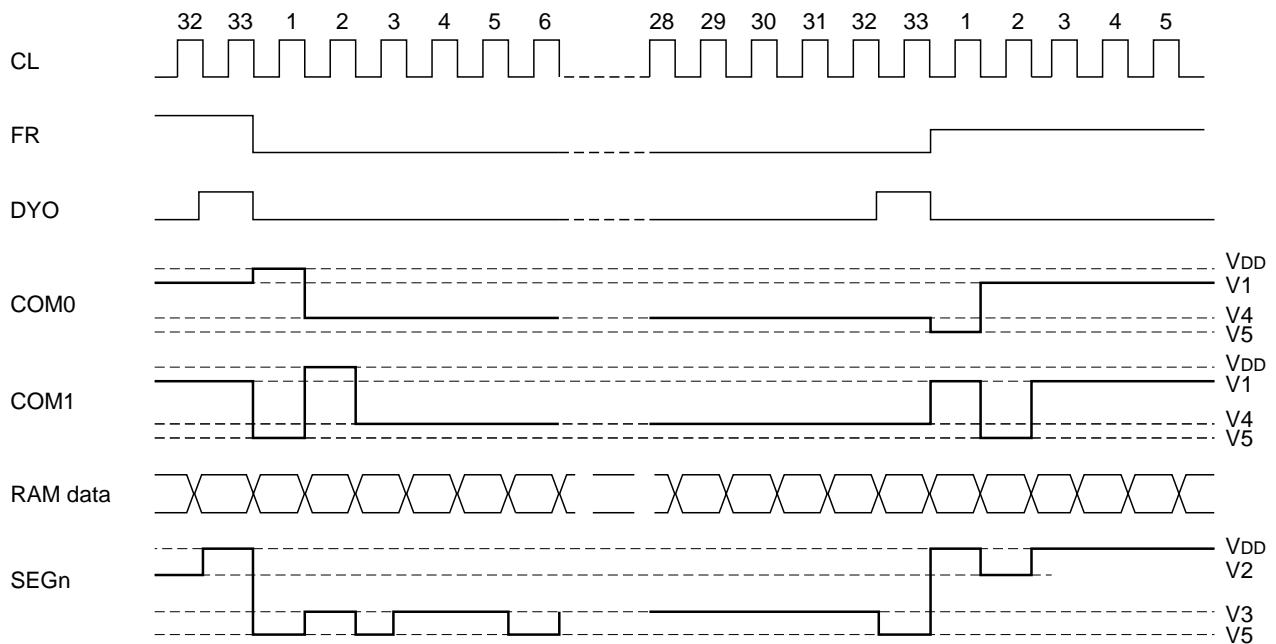

Fig. 6
The display clock generates an internal common timing signal and a start signal (DY0) to the common driver. A display clock resulting from frequency division of an oscillation clock is output from the CL pin. When an AC signal (FR) is switched, a high pulse is output as a DY0 output at the training edge of the previous display clock. Refer to Fig. 6. The DY0 output is output only in master mode. When the S1D15300 series is used for multi-chip, the slave requires to receive the FR, CL, DOF signals from the master. Table 4 shows the FR, CL, DY0 and DOF status.